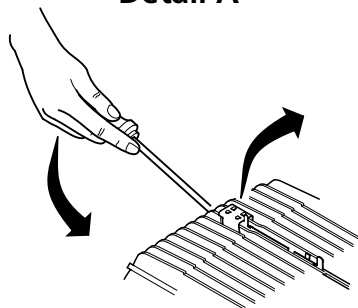

Fig. 903 Change control unit, overheating sensor and combustion and hot air fan (drive unit)
When you fit the bottom shell (4), spread it slightly so that the spacers on the overheating sensor (8, Fig. 903) are not damaged.
3. Disconnect plug connections on control unit (3, Fig. 903).
4. Remove screws (4).
5. Slide the control unit (3) towards the hot air fan and remove it upward.
1. Insert control unit (3, Fig. 903) on combustion and hot air fan (1), slide toward fan housing and fasten with screws (4).
2. Tighten the screws (4) to 3.0 ± 0.3 Nm.
3. Disconnect plug connection X3 from control unit (3, Fig. 903).
4. Lever overheating sensor (8) out of heat exchanger's ribs using a suitable tool (see Detail A).
1. Conduct resistance measurement on overheating sensor (8, Fig. 903) (see 6.4.5).
2. Position overheating sensor (8) and press it into place by hand.
3. Ensure that overheating sensor is correctly positioned in heat exchanger (7).
4. Connect plug connection X3 to the control unit (3).
Only replace the drive unit (1, Fig. 903) with a drive unit with the same rating data and the same ID No.
1. Make sure that sealing surfaces on combustion and hot air fan (1, Fig. 903) and heat exchanger (7) are not damaged.
2. Fit a new flat seal (6) on the flange of the combustion and hot air fan (1).
3. Move combustion and hot air fan (1) into assembled position and fasten with screws (2).
- 2 Torx screw (8)